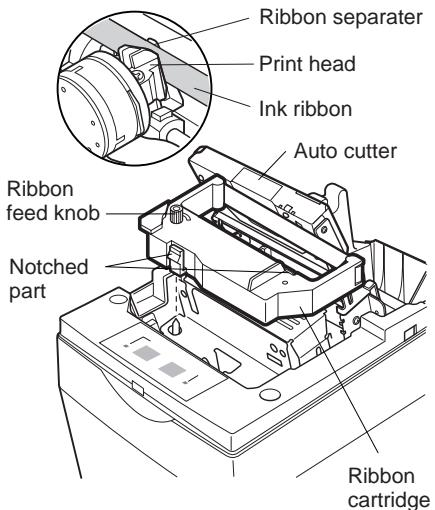

Fig. 6-10 Loading the ribbon cartridge
- ④ Place the ribbon cartridge in the direction shown in Fig. 6-10 and press it down to load it. If loading of the ribbon cartridge is not satisfactory, press down the cartridge while rotating the ribbon feed knob in the direction of the arrow.
- ⑤ Turn the ribbon feed knob of the ribbon cartridge in the direction of the arrow to remove slack in the ribbon.
- ⑥ Close the Auto Cutter.
- ⑦ Mount the cover by reversing the procedure outlined in step ② above.